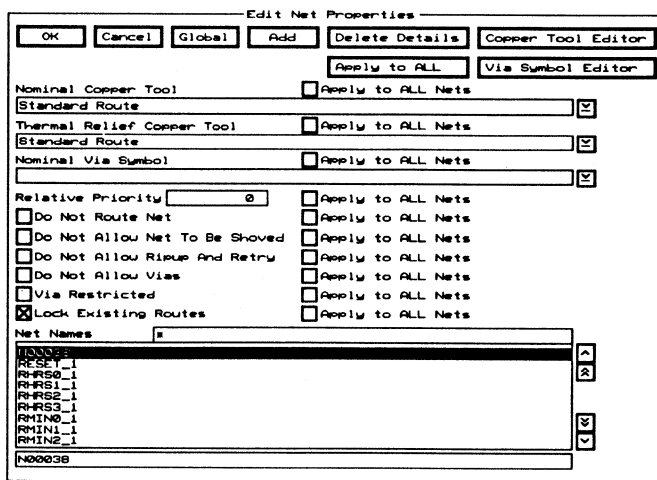

Figure 8-1. The **Edit Net Properties** dialog box.
5. Select **Net Properties**. The **Edit Net Properties** dialog box displays (figure 8-1). N00038, the net name for the selected track, is selected in the **Net Names** list box.